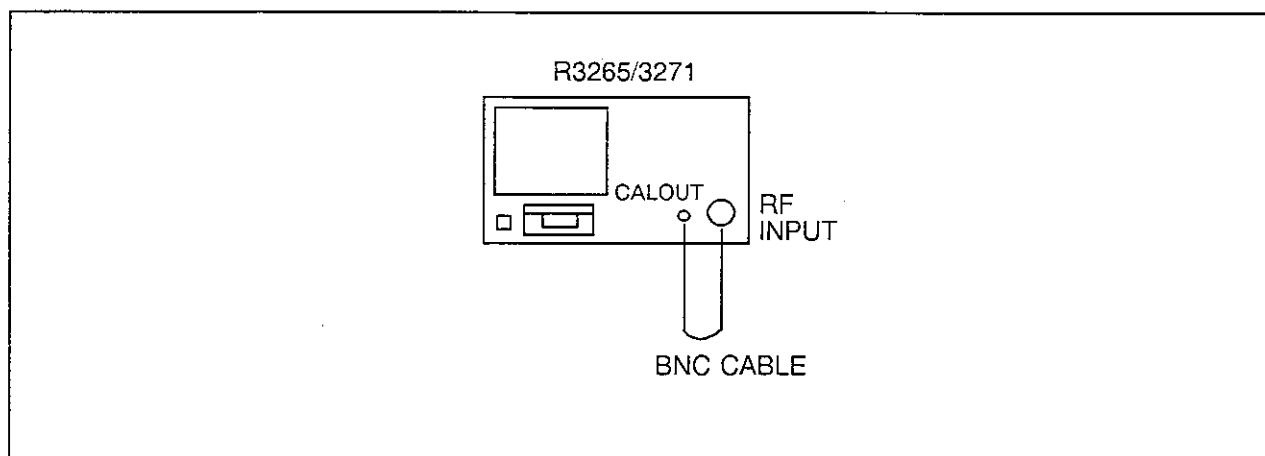

Figure 4-7 Reslution Bandwidth Accuracy/Selectivity Setup
- (1) Connect the R3265/3271 CALOUT to the INPUT 50 Ω as shown in Figure 4-7.
- (2) Press **PRESET** and set the controls as follows:
- (3) Press **PEAK** , **MARKER ON** **dB DOWN** **x dB DOWN** and set **CONT DOWN ON/OFF** to ON.
- (4) Press **MENU** **SWEEP MODE** **SINGLE SWP** , **SINGLE SWP** and wait for a new sweep to finish.
- (5) Record the marker frequency in Tables 4-9 and 4-10 as actual 3 dB bandwidth.